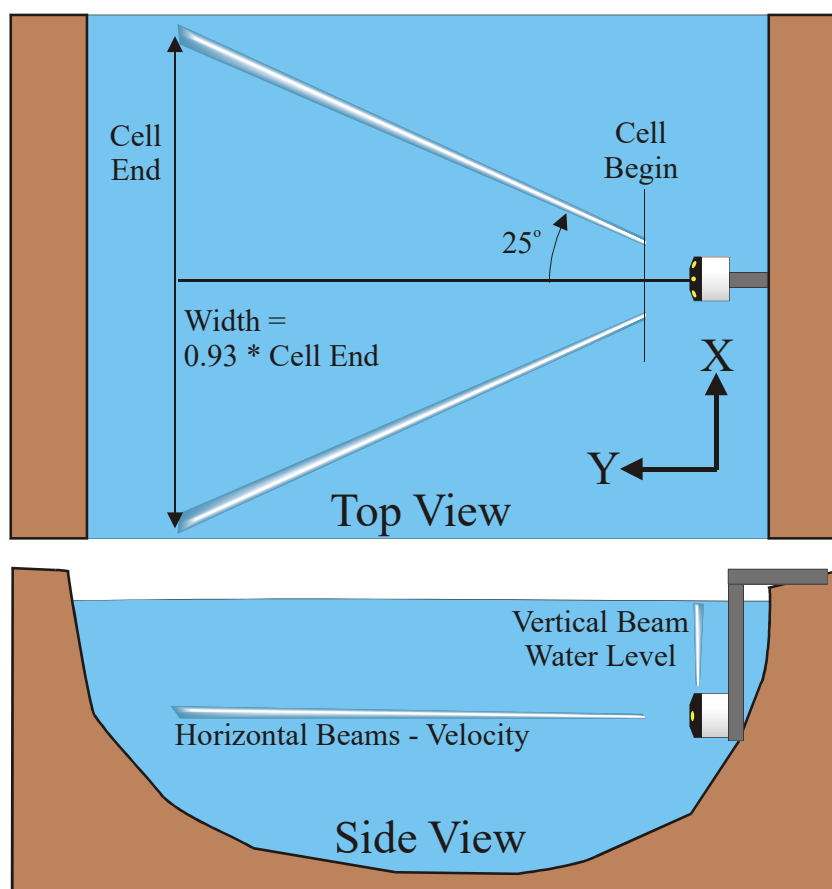

Figure B-4. Argonaut-SL Beam Geometry
- The system uses two acoustic beams in a single plane, each slanted 25° off the instrument axis. This beam geometry is designed for side-looking applications, giving the optimal balance between 2D velocity response and total measurement range (Figure B-4).